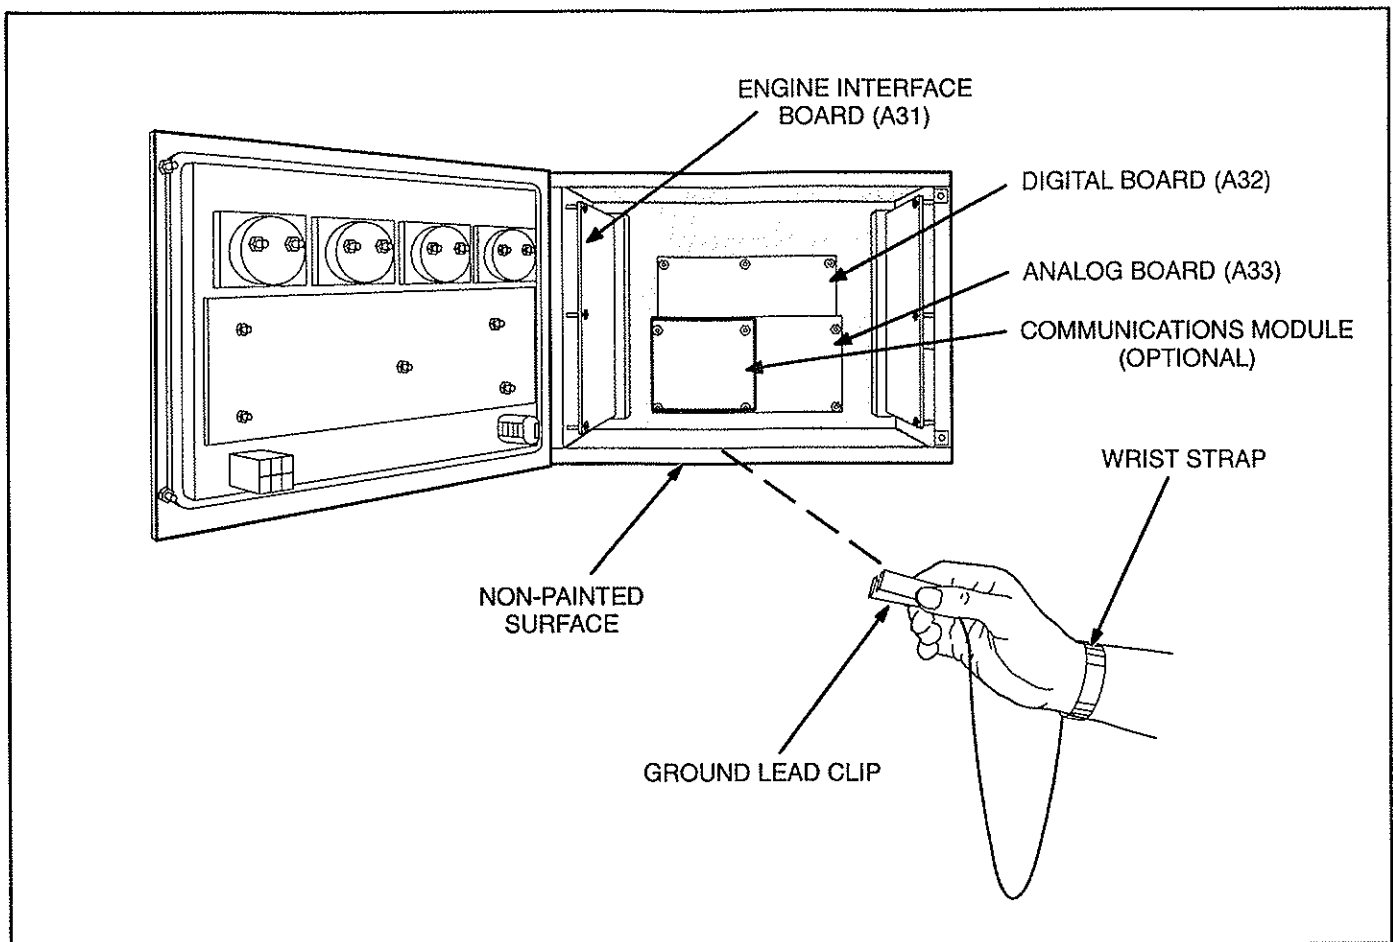

FIGURE 1. WRIST STRAP
The following instructions are for installation of the EPROM kit onto generator sets equipped with the PowerCommand® Control (PCC). The EPROM is located on the Digital board (A32) inside the control box (Figure 1).
Attach the clip to a non-painted surface of the control box (see Figure 1) and place the strap
5. Wear a wrist strap and connect the ground lead clip of the wrist strap to the control box as shown in Figure 1.
If the control box contains a communications module (Figure 1), continue with Step 6. If a communications module is not installed, proceed to Step 7.